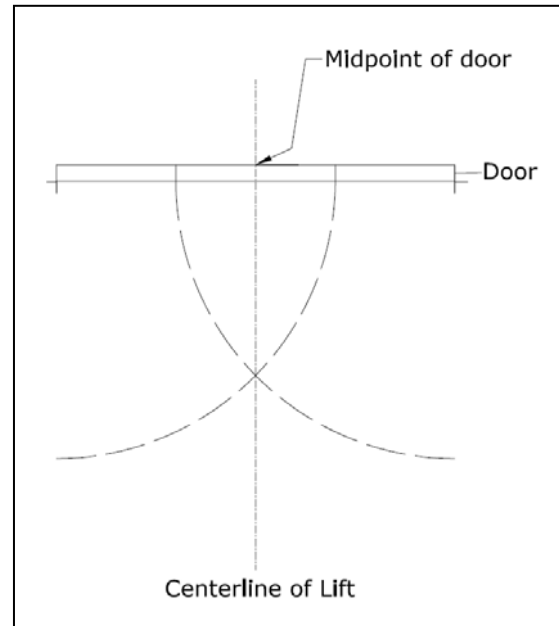

Figure 3. Chalk line
6. Measure the specified distance (126") to draw a second chalk line at 90° for locating the lift towers. Refer to Figure 3.